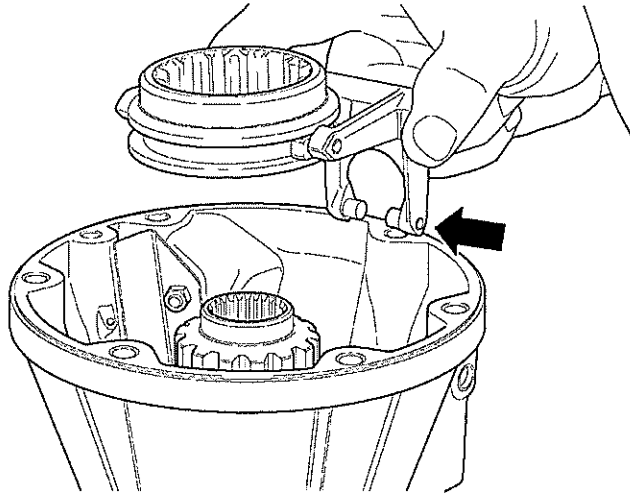

Fig 12 All wheel drive actuator housing selector
- 25.3 Remove selector sleeve and selector fork (see Fig 12).